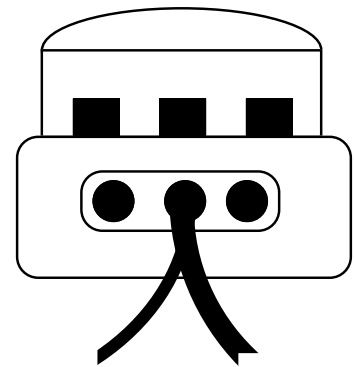

FIGURE 5
STEP 4. Insert the 3 sets of wires into separate water-resistant connectors. Using the appropriate pliers, press the blue section of the connectors firmly into the clear plastic housing. (See figure 5). One connector per connection is used.